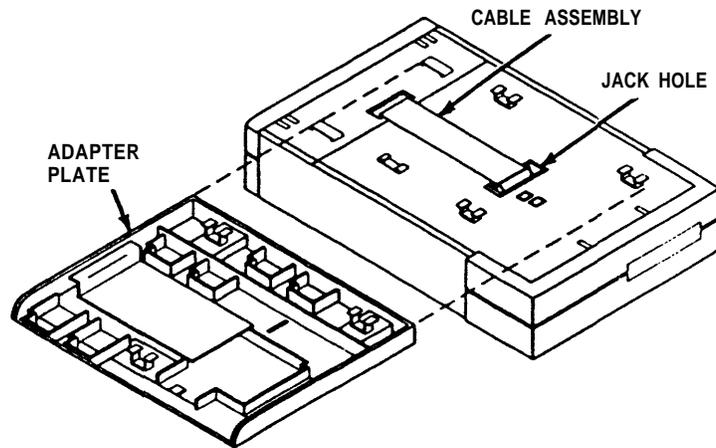

Figure 6
14. Remove the jack hole cover on the 34-button deluxe voice terminal base (Figure 6).
15. Plug the ZH802A cable assembly into the jack on the 34-button deluxe voice terminal base (Figure 6).